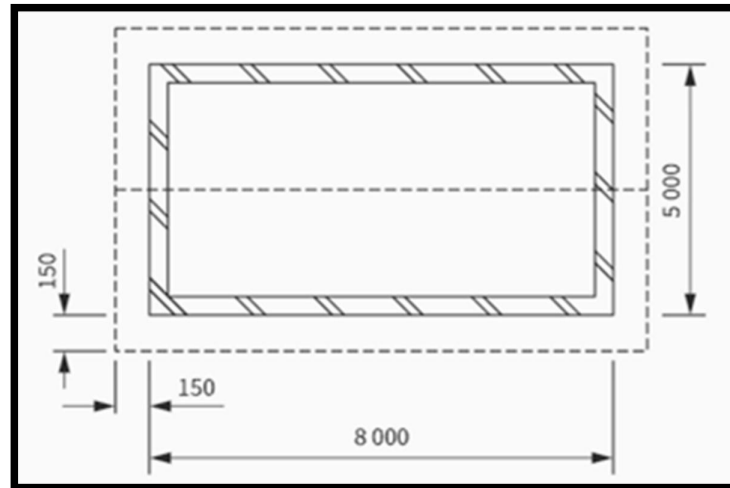

FIGURE 3.5
- 3.5 FIGURE 3.5 below shows the floor plan of a building with a gable roof. Study the figure and answer the questions that follow. Show ALL calculations.